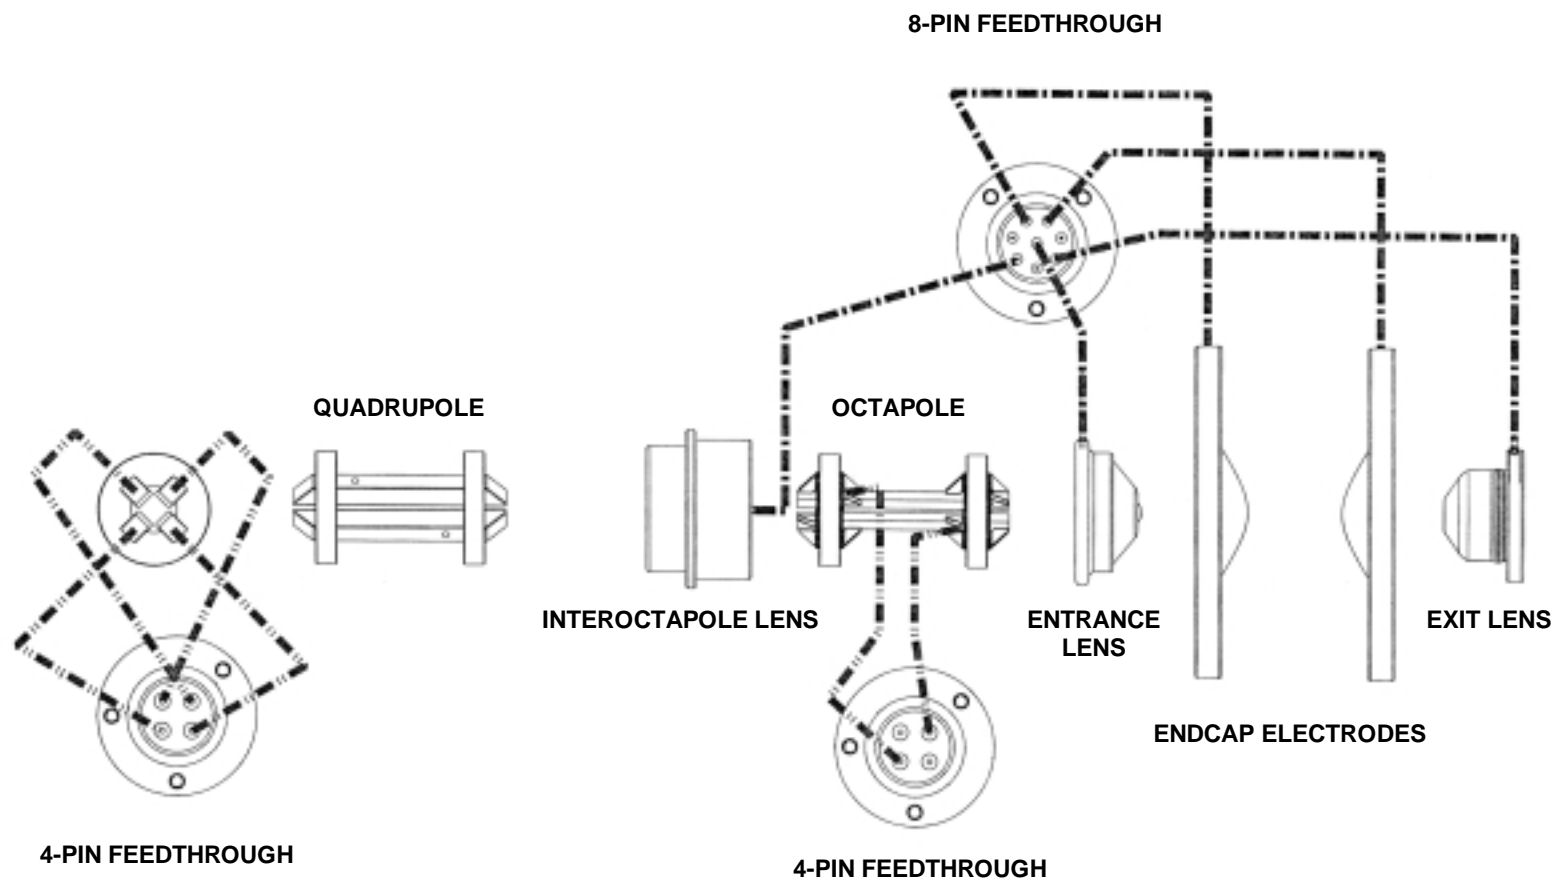

Figure 5-3. Analyzer electrical connections
10. Reconnect the electrical lead from pin 8 of the 8-pin feedthrough to the entrance lens. See Figure 5-3.